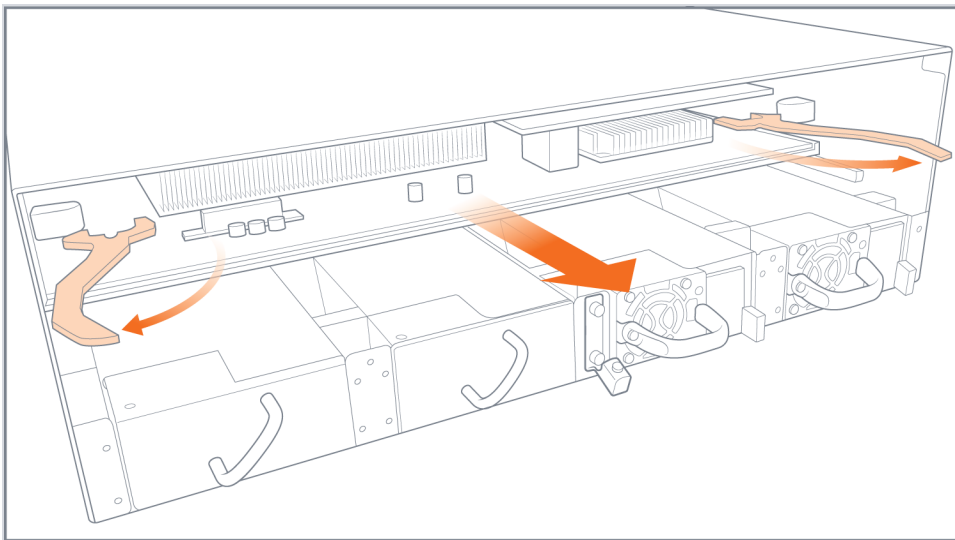

Figure 18: Control Card Ejector Handles
4. Swing both ejector handles outward as shown in Figure 18: Control Card Ejector Handles on page 84.